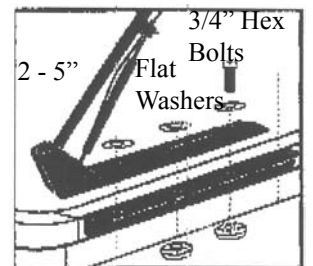

Figure 4
1. With **Pivot Assembly** fully expanded, place five (5) 1/2" bolts with washers through holes in Assembly and **Side Mount Bracket** carefully lining up same. (figure 4)